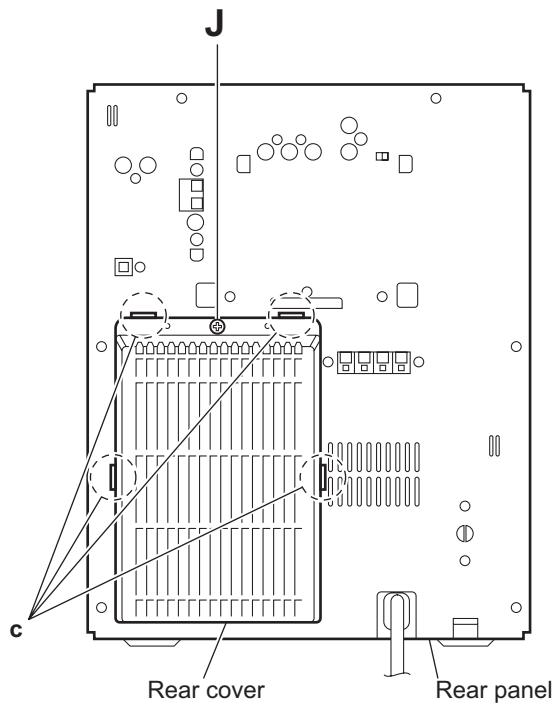

Fig.10
(See Figs.10 and 11)
- (1) From the back side of the main body, remove the screw **J** attaching the rear cover. (See Fig.10.)
- (2) Release the sections **c** and remove the rear cover from the rear panel. (See Fig.10.)